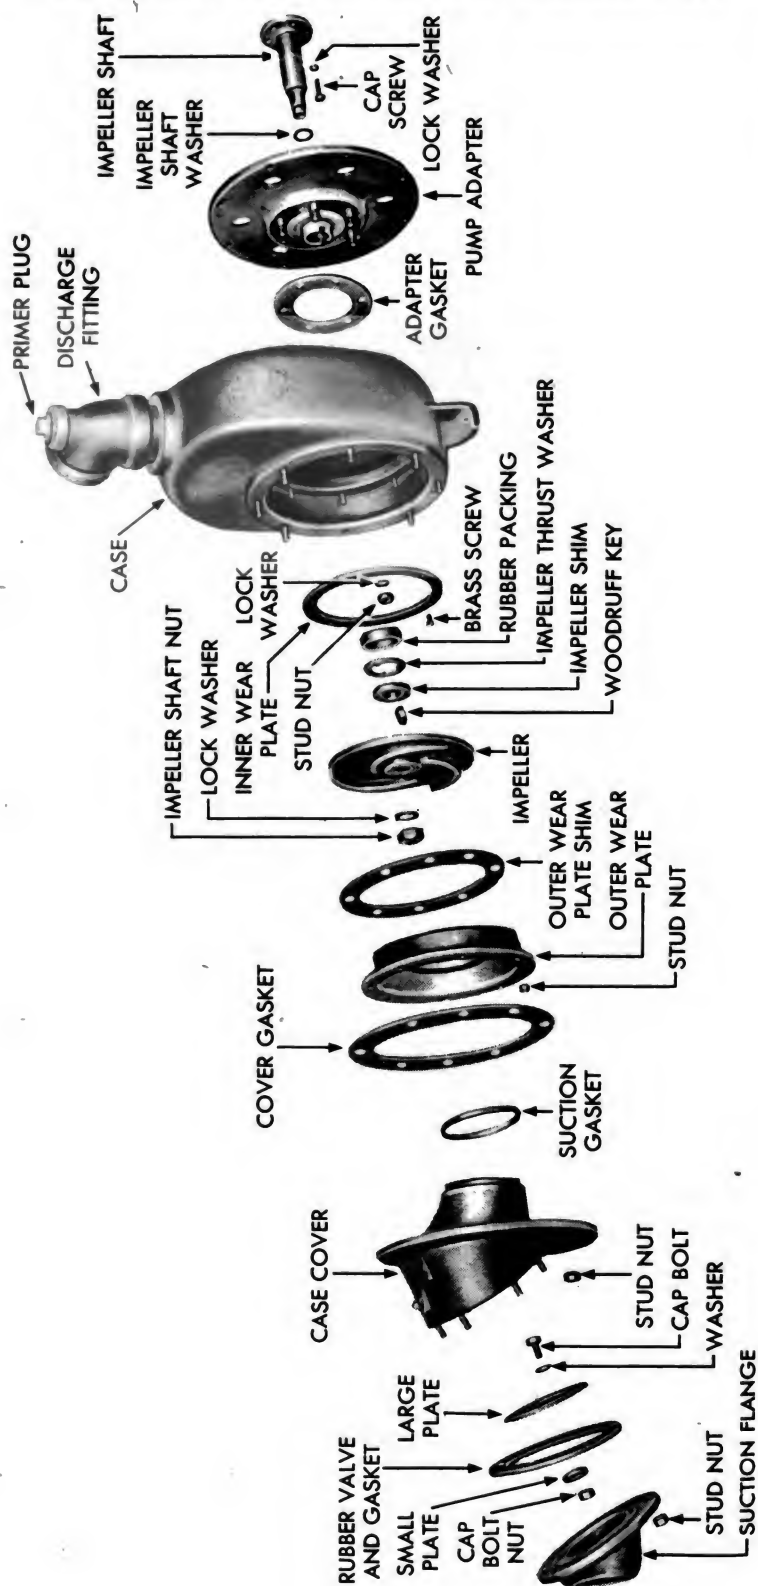

Figure 90 — Engine-driven Centrifugal Pump — Exploded View
a. Disassembly and Removal of Pump (fig. 90).
(9) Remove the eight cap screws and lock washers which attach pump adapter to engine bell housing.
(10) Remove the two cap bolts, nuts, and lock washers which secure pump case to frame. Lift pump case from frame.
(11) Remove the six stud nuts and lock washers which attach pump adapter to pump case. Lift adapter from case.
(12) Remove the six cap screws and lock washers which secure impeller shaft to engine flywheel. Lift shaft from flywheel.
b. Installation and Assembly of Pump (fig. 90).